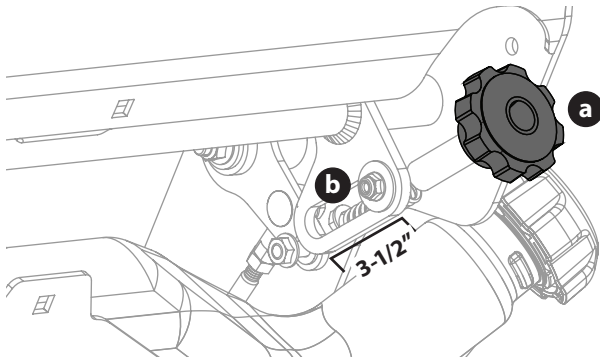

Figure 26
2. Adjust the tracking knob (a) until the threaded rod (b) is flush with the end (Figure 26). The length of the spring should be approximately 3-1/2" for proper adjustment.